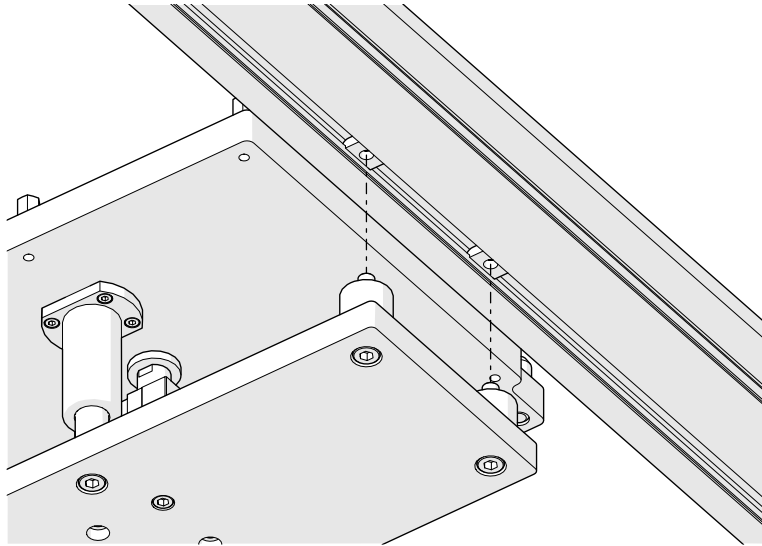

Figure 6: Mounting LLLU Onto Conveyor
Step 4: Insert M8 SHCS and begin to tighten (do not completely tighten yet) as shown in Figure 6.